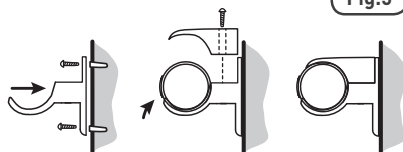

Fig.5
- Once a suitable location has been found, screw the two bottom halves of the bracket to the wall [Fig.5].